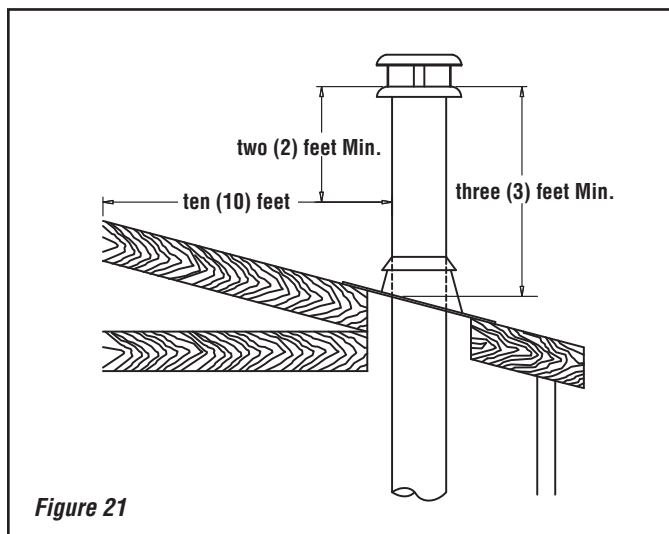

Figure 21
7. The chimney must extend at least 3 feet (915 mm) above its point of contact with the roof and at least 2 feet (610 mm) higher than any wall, roof or building within 10 feet (3m) of it (see **Figure 21**).